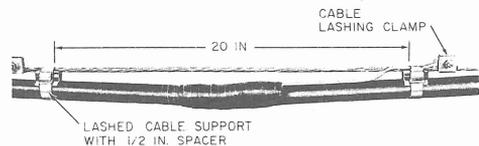

Fig. 50—Completed Bond
- (k) To complete the sheath to strand bond, terminate the free end of the ground wire in the cable lashing clamp. Form an "S" bend in the ground wire (Fig. 50).